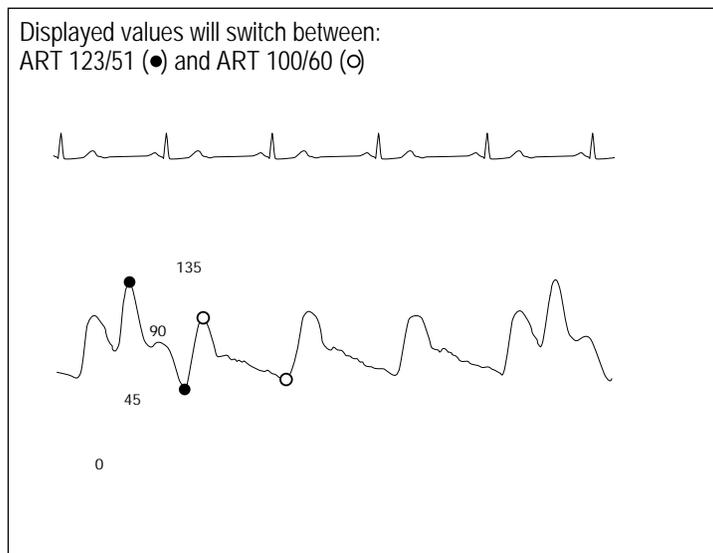

Figure 3
- The displayed systolic numerics will switch between the augmented diastole and patient systole. (See figure 3 below.)
- The displayed diastolic numerics will switch between the balloon end diastole and the patient end diastole. (See figure 3 below.)